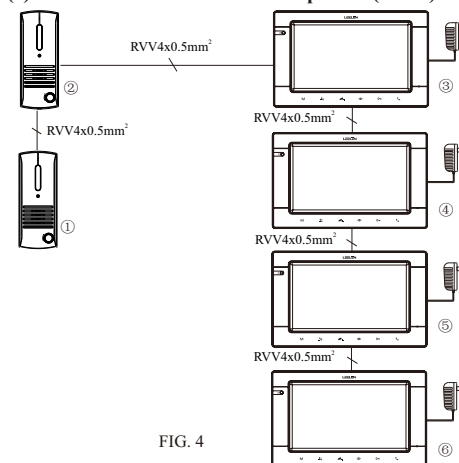

FIG. 4
(2) 2 outdoor stations and 4 indoor phones (FIG.4)